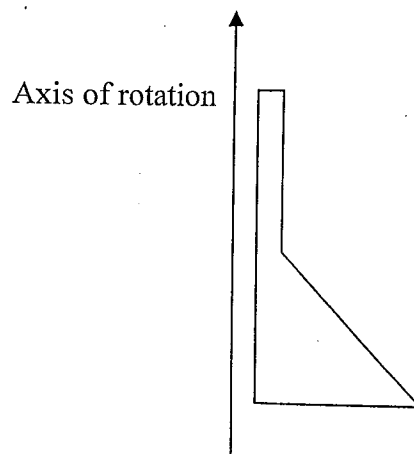

Fig. 3.3
V. Draw the part obtained by applying rotational sweep for the boundary set given in Fig. 3.3.